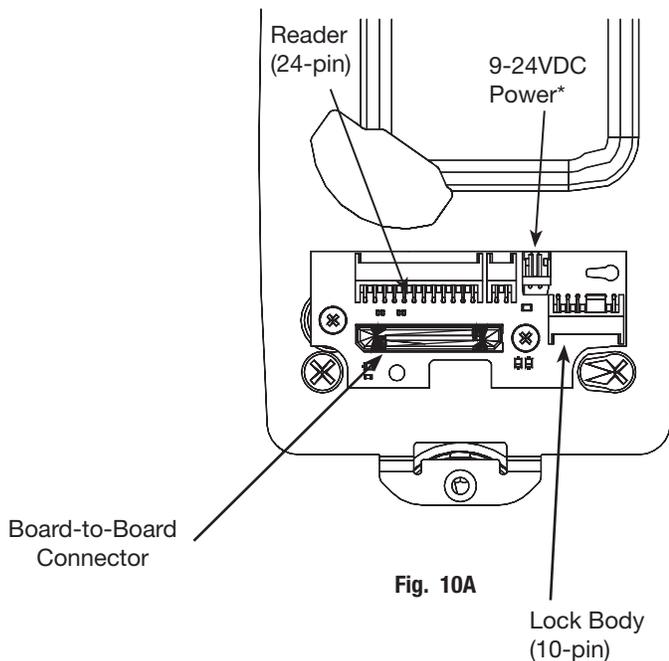

Fig. 10A
2. On the inside of the door, position the mounting plate over the indicated holes (Fig. 10A).